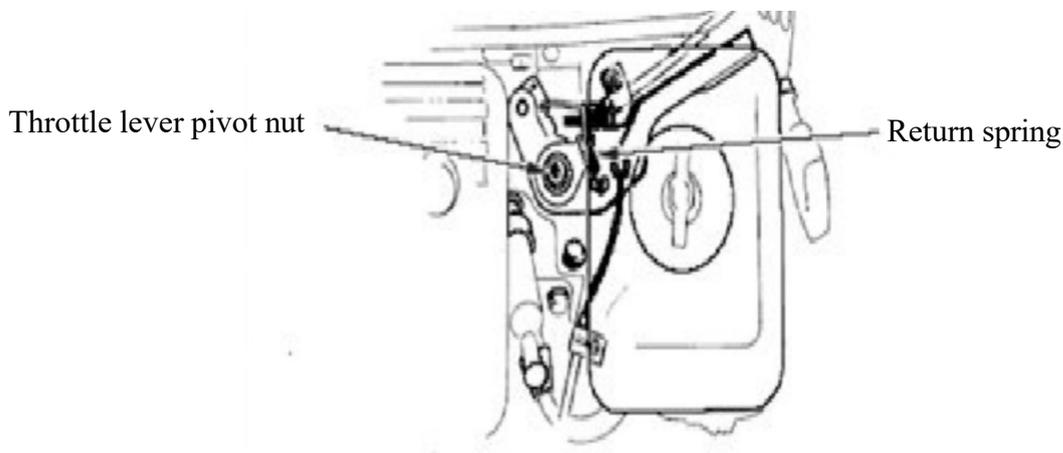

Figure 7.
3. Adjustment of the throttle cable (See Figure 7)